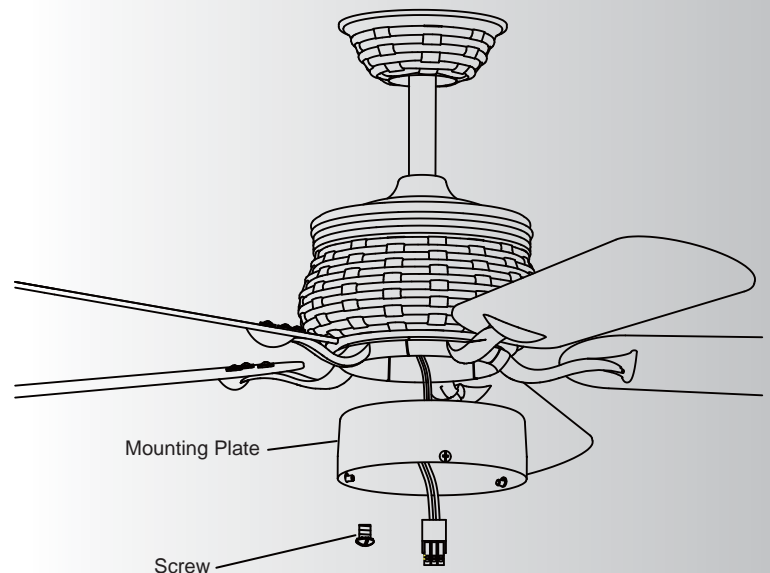

Fig. 16
Step 2. Place the key holes on the mounting plate over the 2 screws previously loosened and turn mounting plate until it locks in place at the narrow end of the key holes. Secure by tightening 2 screws previously loosened and reinstalling the one removed. (Fig. 16)